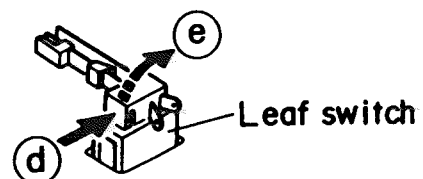

Fig. 2-37
■ **Leaf switch (Fig. 2-37)**
Press the leaf switch in the direction of the arrow ④ and then remove it in the direction of the arrow ⑤ referring to Fig. 2-37.